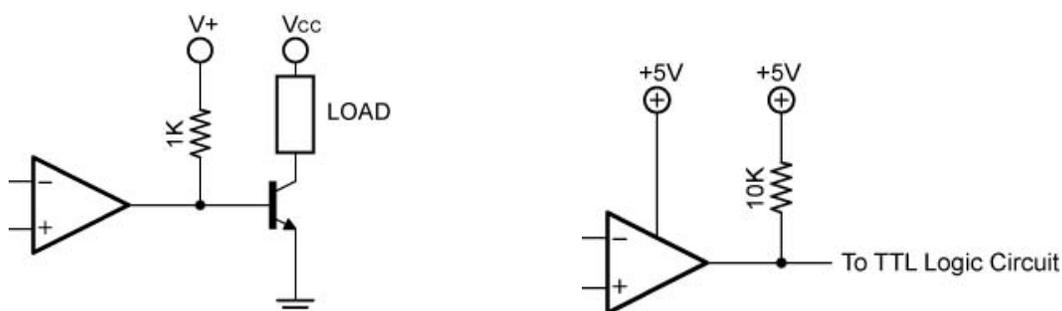

**Figure 9: Chip Acting as a Sink**
- **Chip as a Sink:** In Figure 9, when the pin connected to the LED goes LOW, the chip connects the load to ground, similar to the switch in Figure 10.